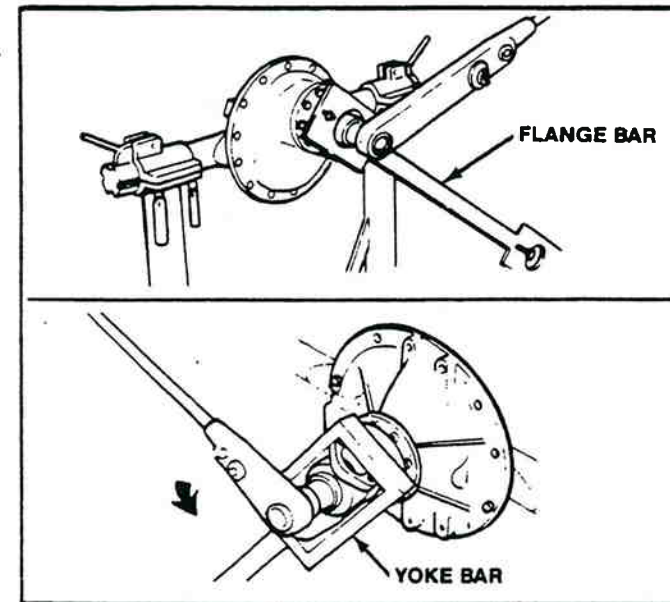

Figure 2-21. Removing Drive Pinion Nut.
1. Fasten a yoke or flange bar to the input yoke or flange. The bar will hold the drive pinion in position when the nut is removed. Remove the nut and washer from the drive pinion (Figure 2-21).